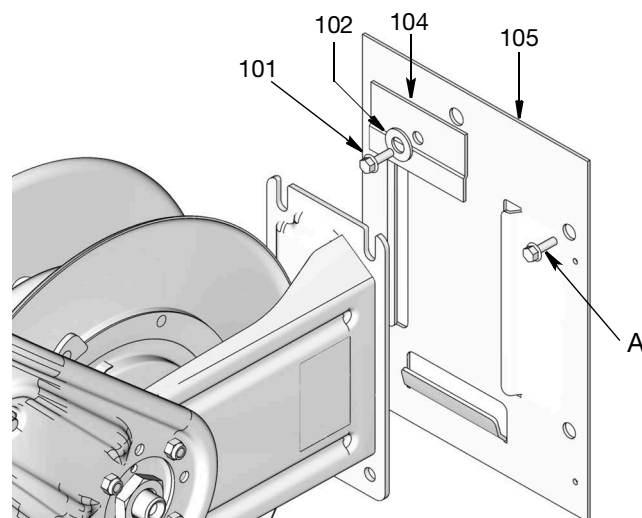

FIG. 5
NOTE: For wall and ceiling installations, the user must provide four mounting bolts and four washers (A) (FIG. 5) that are strong enough to support the weight of the cord reel, cord and accessories. See Technical Data, page 25 for the cord reels weights without accessories.
3. Use the reel base (FIG. 5 - 105) to lay out the position of the mounting holes before you drill
NOTE: For easier installation, mount the base plate (105) to the wall first (FIG. 5).
4. Drill mounting holes. Mount base plate (105) to wall using 4, user supplied mounting bolts (A) that are strong enough to support the weight of the cord reel, cord and accessories. Tighten bolts securely.
5. Slide cord reel onto the base plate (105) and install the hold-down plate (104), washer (102) and screw (101). Tighten the screw firmly (FIG. 5).